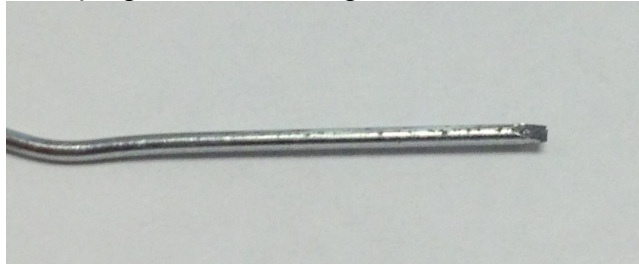

Figure 6: Grind a paper clip like this
3. If the screwdriver does not fit in the area of the plug, a ground paper clip can be used to release the tabs of the plug as shown in figure 6.